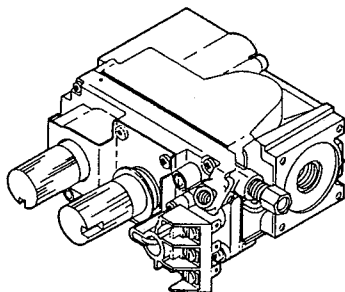

Figure 36
**Step 2.** Carefully remove the top log. Then remove the two (2) main logs. Exercise care as not to break or scratch the logs.
**Step 4.** Remove four (4) screws securing the valve to the mounting bracket, two (2) at each side.
**Step 5.** Remove and replace the valve assembly located on the underside of the appliance at the right side (Figure 36).